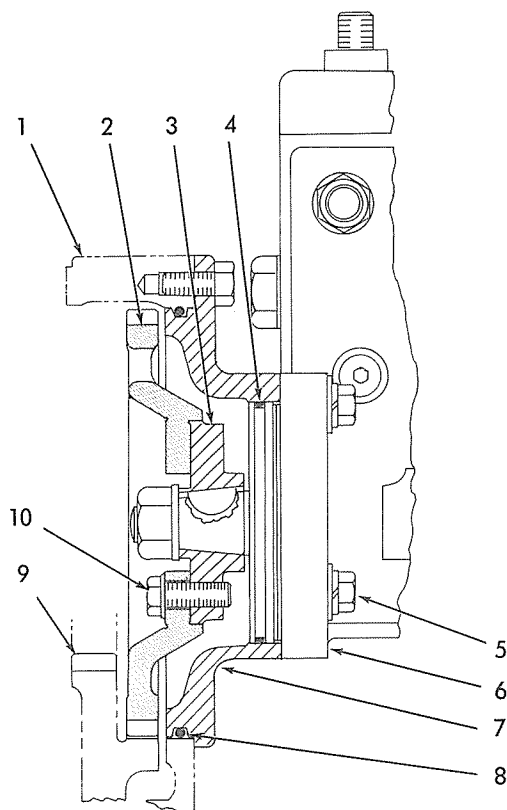

Fig. 6 Fuel Injection Pump Drive
- a. Refer to Fig. 6 and install O-ring in groove of injection pump. Assemble mounting cover on injection pump using capscrews, lock-washer, and plain washer. Tighten capscrews securely. Install O-ring in groove of mounting cover.